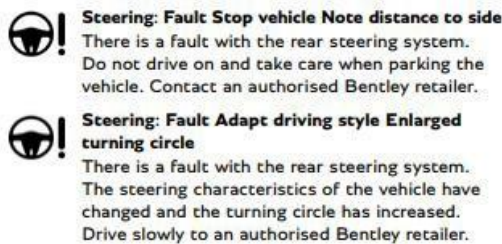

Figure 1
- Warnings within the DIP for the rear steering system (Figure 1)